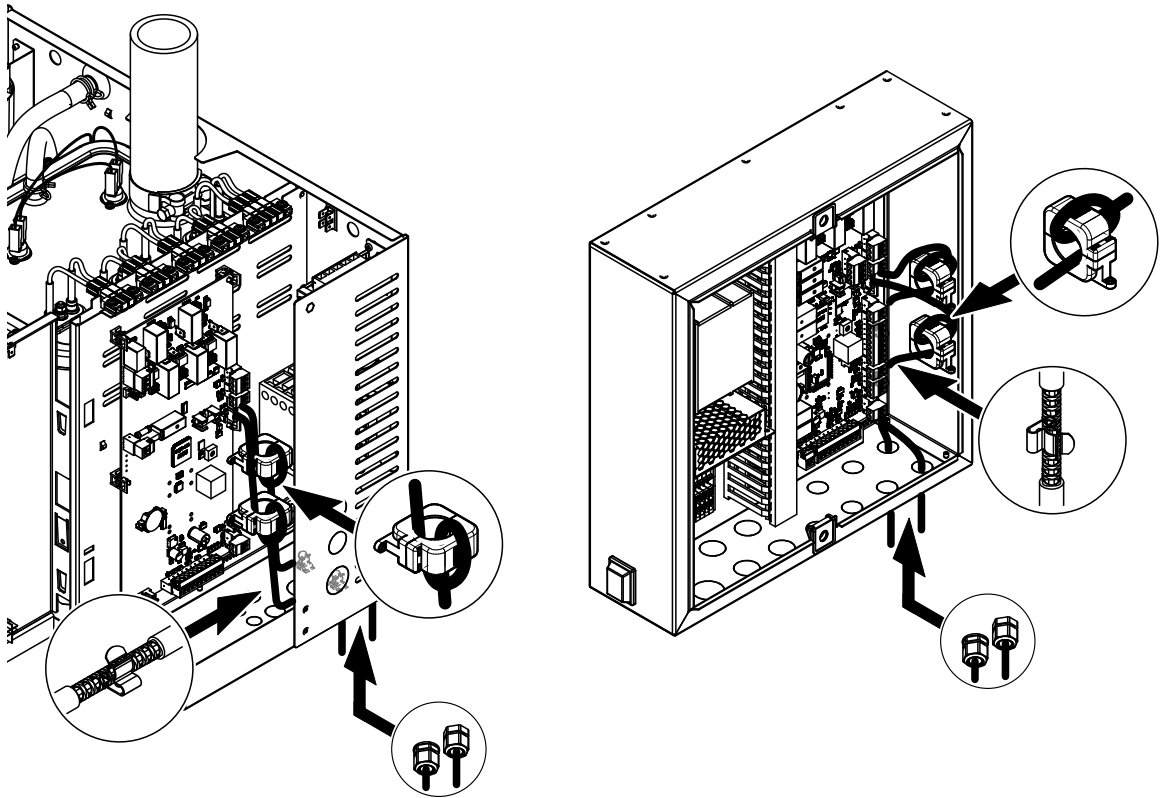

Fig. 24: Feeding the cable(s) through the ferrite ring(s) and fixing the cable shield(s) in the clamp holder(s)
3. Guide the CAN BUS cable(s) in a loop through the ferrite ring(s) as shown in Fig. 24.